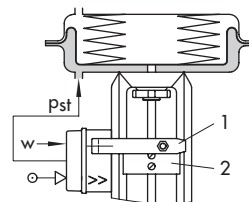
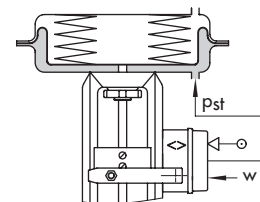
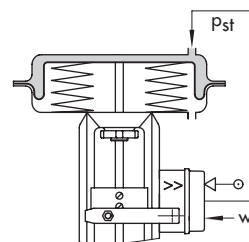
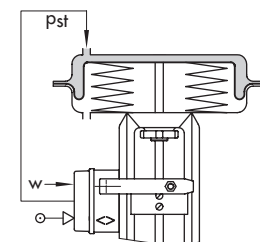

Fig. 4: Direction of action >> Left attachment
Fig. 5: Direction of action <> Right attachment
Fig. 6: Direction of action >> Left attachment
Fig. 7: Direction of action <> Right attachment
When the reference variable increases, the signal pressure can be selected to be increasing/increasing (direct action >>) or increasing/decreasing (reverse action <>). The direction of action depends on the position of the nozzle assembly that can be turned by 180°. The visible marking (>> or <>) indicates which direction of action is effective. On changing the direction of action or the fail-safe position, note that the positioner must also be mounted in a different position (Fig. 4 to Fig. 7).
Fig. 4 to Fig. 7 schematically illustrate the arrangement of the actuator, mounting position of the positioner, reference variable, and direction of action.
Actuator stem extends (Fig. 4/Fig. 5)
Actuator stem retracts (Fig. 6/Fig. 7)
Fig. 4 to Fig. 7 illustrate the different directions of action and the mounting positions of the positioner. Right and left attachment apply when looking onto the lever (1) and plate (2).